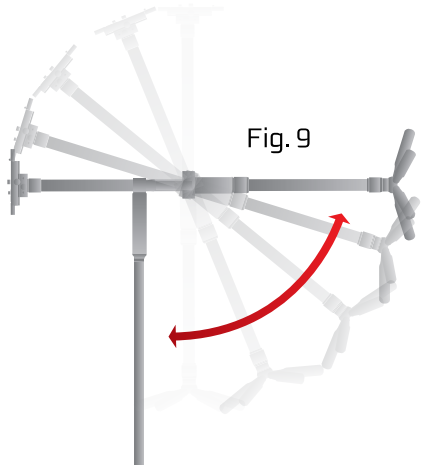

Fig. 9
4. Once the unit is perfectly upright and balanced on all three axes, lift the weighted end of the stabilizer to its horizontal position and then let go. It should take approximately 3 seconds for the unit to drop to vertical position. (Fig. 9)